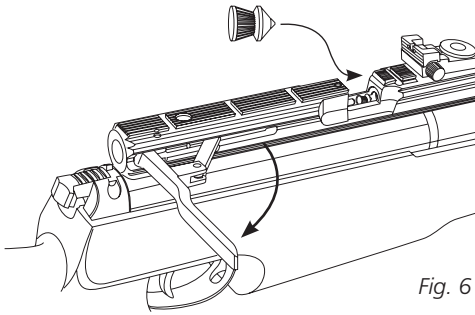
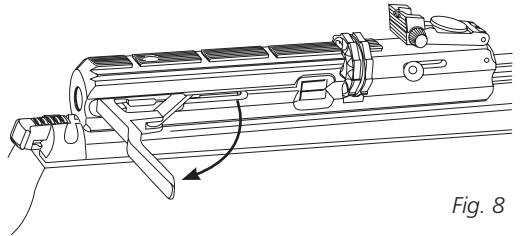
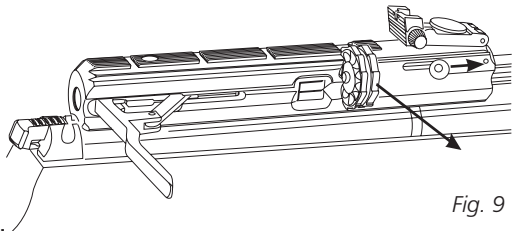

Fig. 6
Fig. 8
Fig. 9
1. Pull the cocking lever until it locks and put one pellet into the pellet loading slot as shown in Fig 6.
2. To remove the magazine, pull the cocking lever until it locks and push forward the magazine release bolt. Then remove the magazine by pulling it to the right. (Fig. 6, Fig. 8 & Fig. 9).